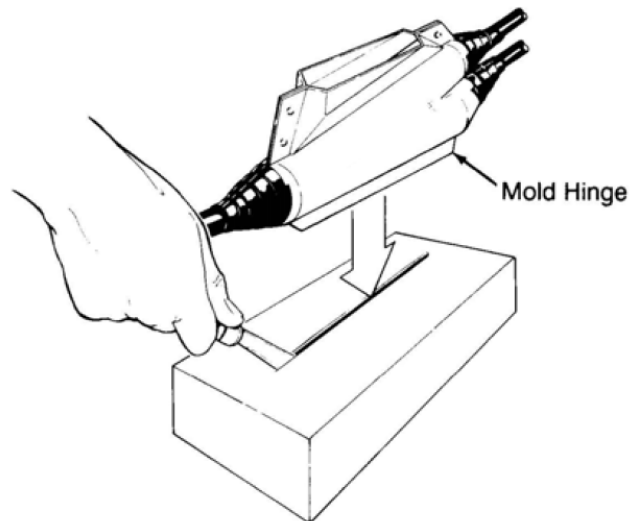

Figure 6
- a. Make a straight knife slit in cover of closed carton that is slightly longer than the mold's hinge. (Figure 6)
- b. Position carton beneath splice and press the mold's hinge into the knife slit. This holds splice in position for compound pouring. (Figure 6)